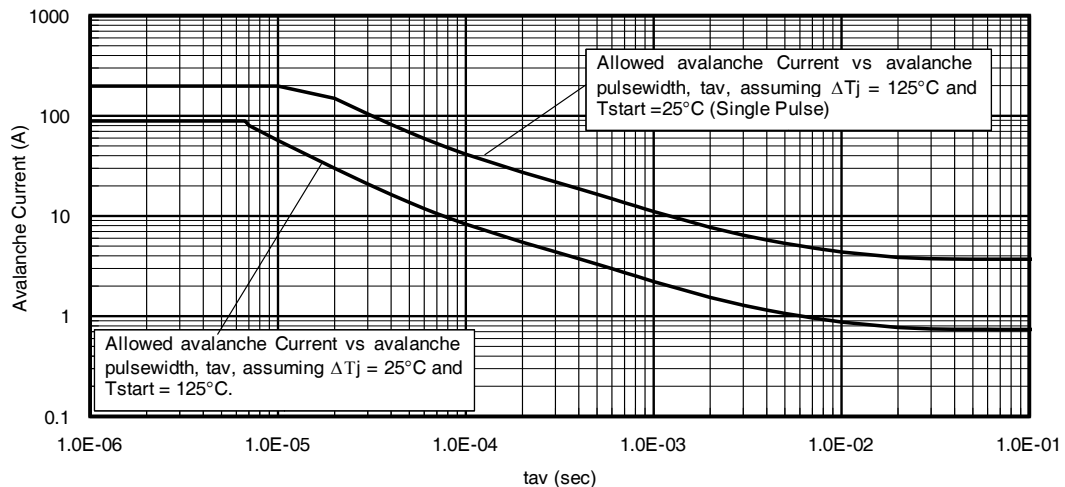

Fig 15. Avalanche Current vs. Pulse Width
**Notes on Repetitive Avalanche Curves , Figures 15, 16: